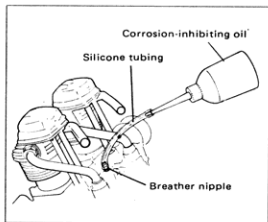

Fig. 35
- 5) If the engine is not in use for a while (more than two months) remove the glowplugs and rinse out the interior with kerosene (not gasoline), by rotating the crankshaft. Shake out residue, then inject corrosion-inhibiting oil (preferably) or light machine-oil through glowplug holes and breather nipple, again rotating the shaft to distribute the protective oil to all working parts. (Fig. 35)